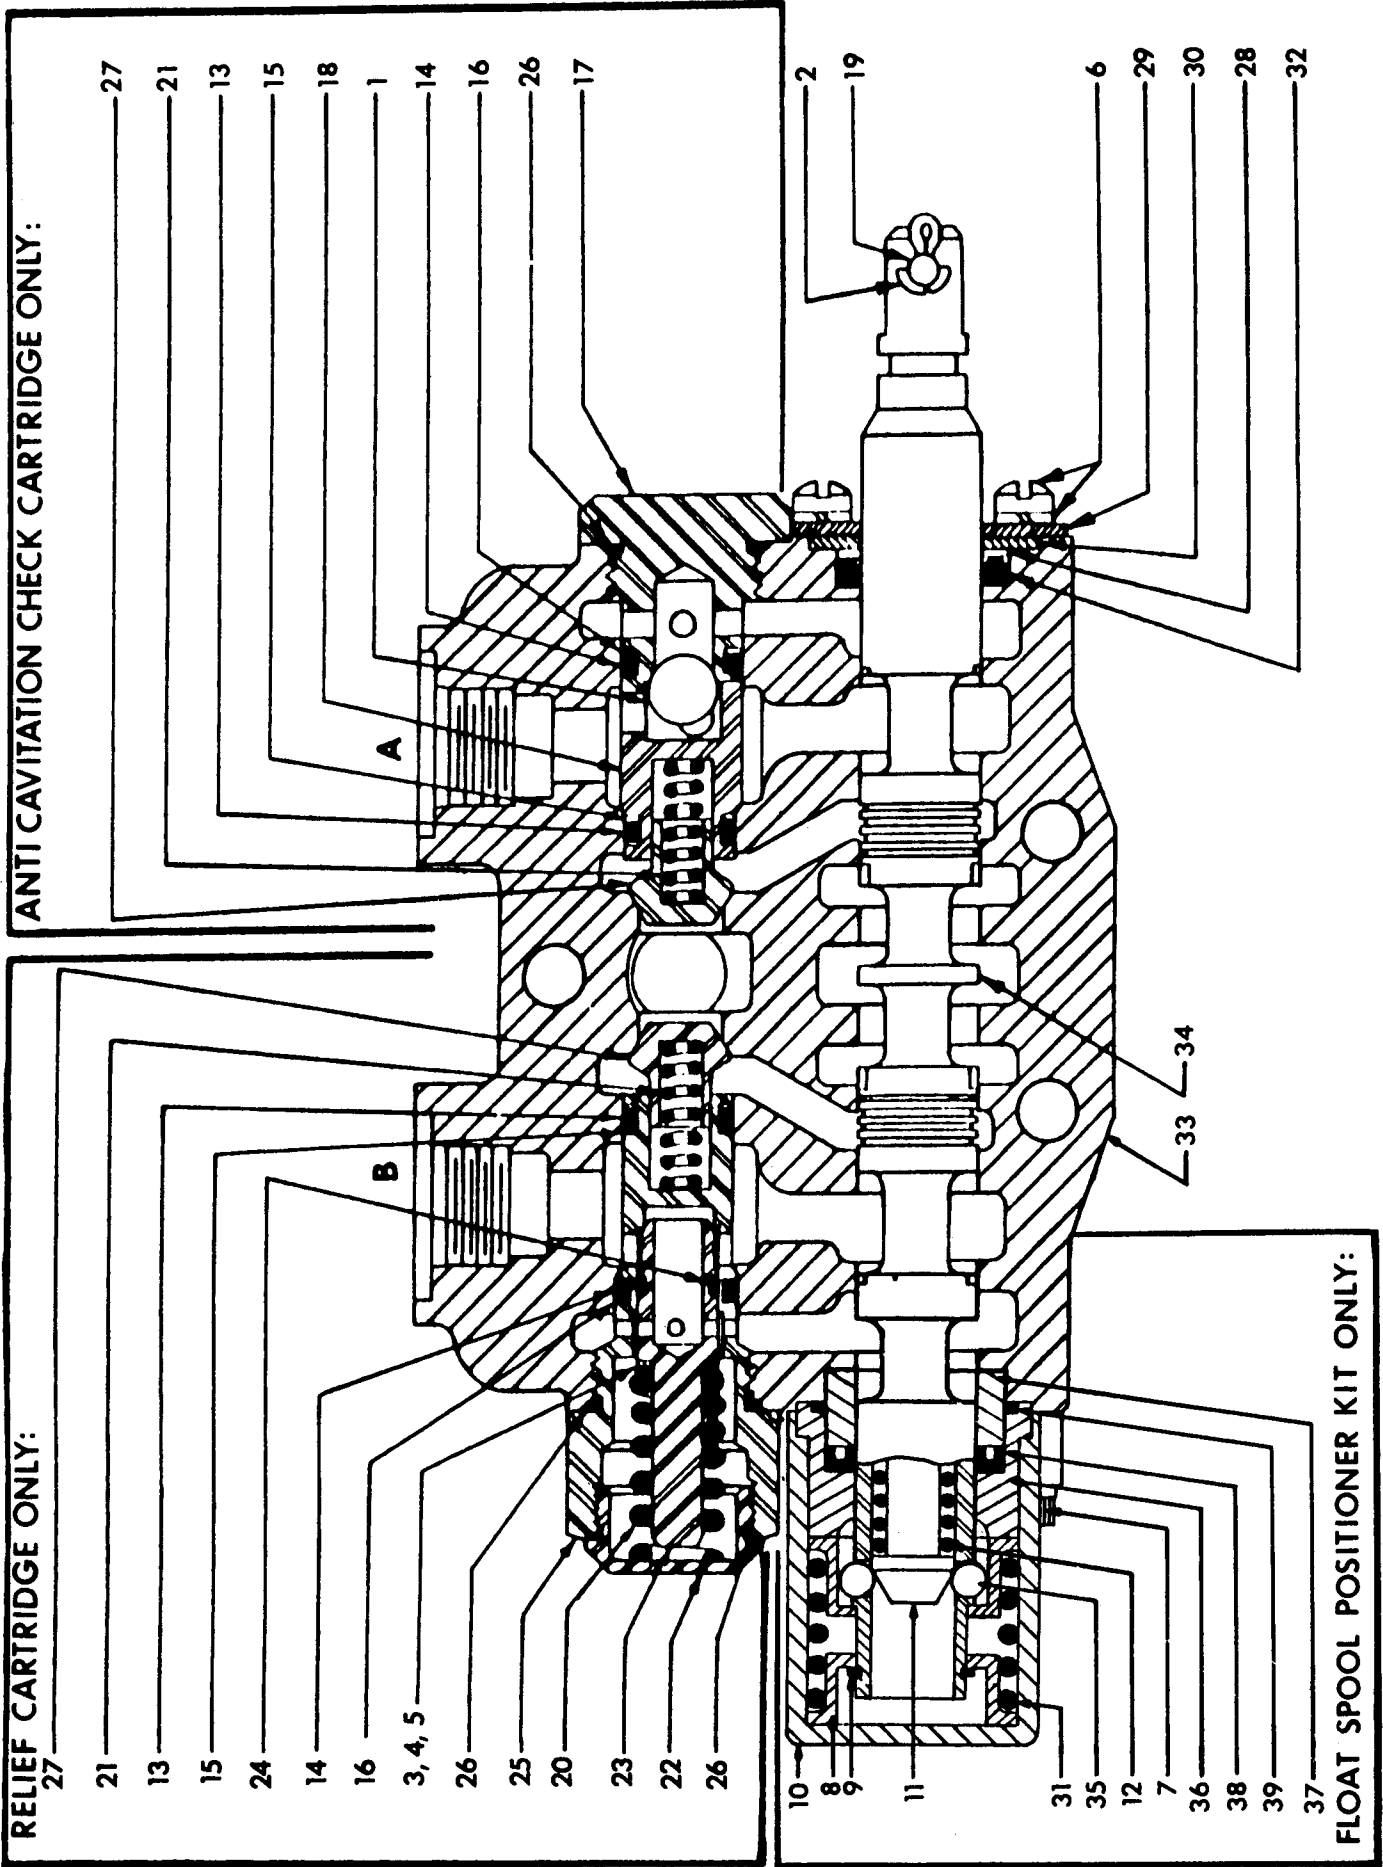

FIG 8
20. Bent spool.....	replace with new spool section. See item 31 at the end and Fig 8, 9, 10.
23. Spool not moved to full stroke.....	check travel, should be 5/16 inch either way or a total of 5/8 inch. See item 31 at the end.
25. Overload relief valve in the control..... valve stuck open or malfunctioning.	clean relief carefully but do not disturb its pressure setting as it can not be field calibrated, or replace cartridge. See item 31 at the end and Fig 8 and 9.
28. Check poppet in the control valve.....clean check poppet(s) carefully, being sure that it moves freely with good spring action and seats properly or replace. See item 31 at the end and Fig 8, 9, and 10.
29. Damaged or worn spool seals.....replace spool end seals, see item 31 at the end and Fig 8, 9, and 10.
30. Check ball in anti-cavitation check.....clean anti-cavitation valve carefully, being sure that checks move freely and seat properly, or replace cartridge. See item 31 next, and Fig 8 and 9.
PARTS LIST - FIG 8